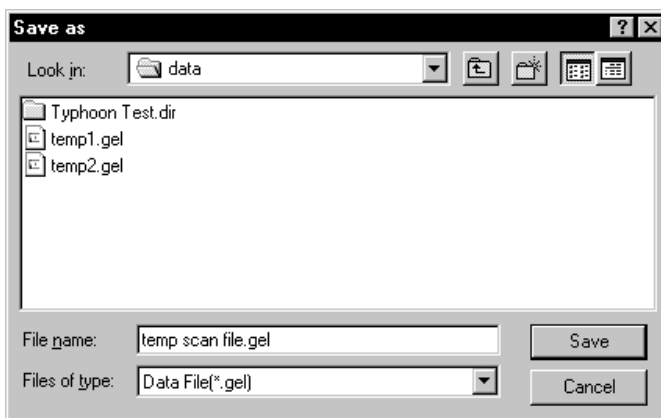

Fig 12-5. The Save as window.
- 2 In the Scanner Control window, click the **Scan** button. The Save as window appears (fig 12-5).